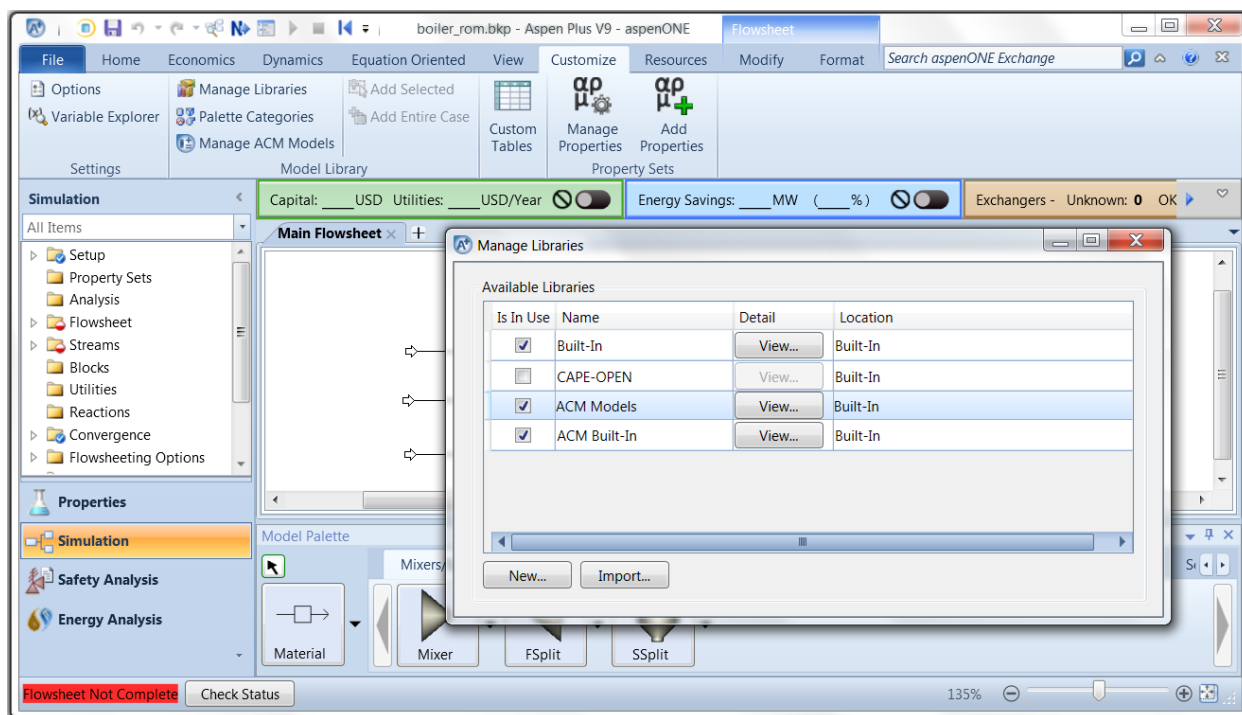

Figure 4: Manage Model Libraries Under Customize Menu
5. To activate the “Boiler_ROM” model, the user needs to issue the “Manage Libraries” command under the “Customize” menu. The “Manage Libraries” dialog window displays as shown in Figure 4. Select the “ACM Models” check box under the “Available Libraries” list. An “ACM Models” tab is added to the model palette. Close the “Manage Libraries” dialog window. Select the “ACM Models” tab at the right of the palette. An icon named “BoilerROM” is displayed.